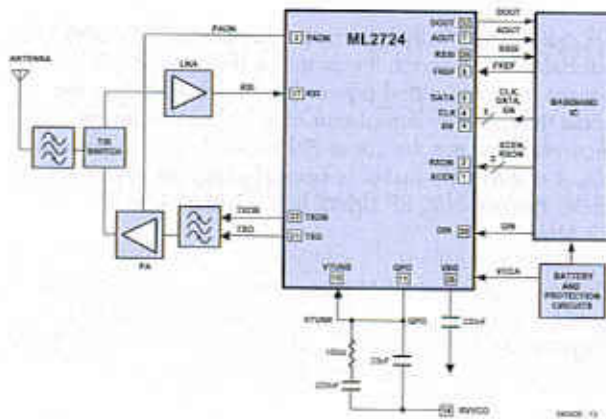

Figure 4.
The other important technique besides DSSS is frequency hopping (FH). As the best-known representative of this technique, Bluetooth divides the ISM band between 2402 MHz and 2483.5 MHz into 79 channels, each with a width of 1 MHz. The signal hops (jumps) between channels in a cyclic pattern at the rate of 1600 hops per second. This means that typical narrow-band interference sources can cause only minor damage to the transmitted data. Figure 4 shows how several Bluetooth nodes can share the same frequency band using different frequency-hopping sequences. In principle, the frequency-hopping sequence for the FH technique corresponds to the PN code for DSSS, since in each case mutual interference among the individual nodes is prevented by using a different spread-spectrum sequence for each node. The FH technology used for Bluetooth demands quite precise channel frequency settings, with a tolerance of ± 75 kHz, and exact compliance with the scheme of hopping to a new frequency every 625 ns. Due to these technically demanding requirements, it took several years of intensive development work before the first single-chip Bluetooth transceiver reached the market at a price suitable for mass-consumption products.